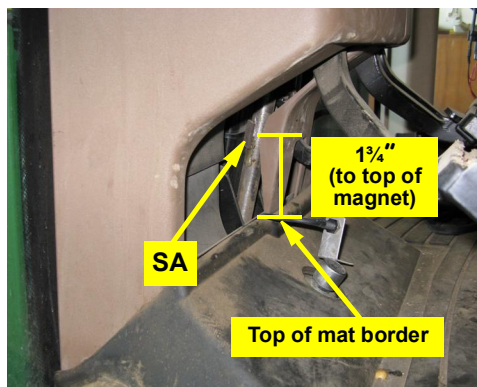

Figure 2: Magnets installed
- c. Using the epoxy, attach both magnets **SA** 180° from each other on the steering shaft (Figure 2).